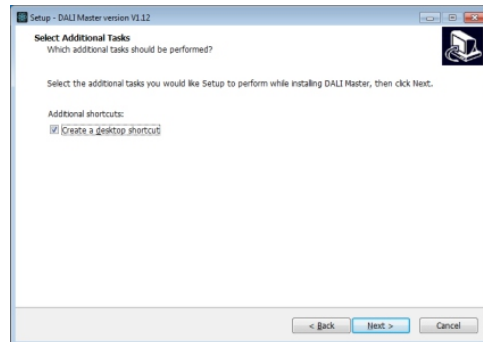

Figure 4 Create Desktop Shortcut
Step 4: Create desktop shortcut as shown in Figure 4.